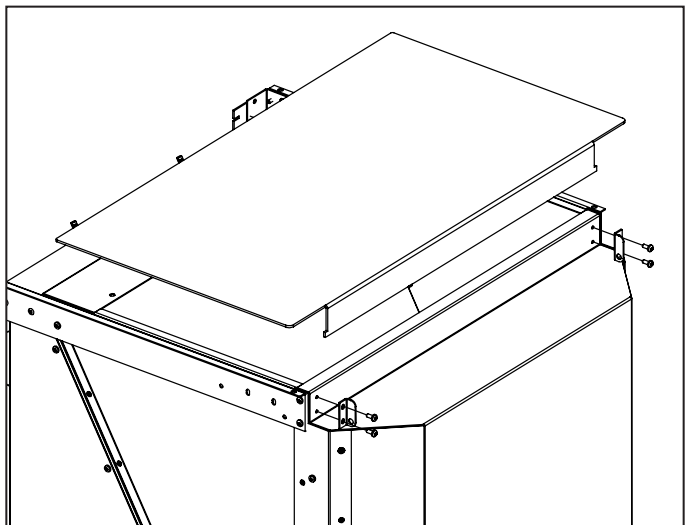

**Figure 4: Original front grill removal.**
4. Remove the four T-20 screws securing the Front Grill assembly, see figure 4.